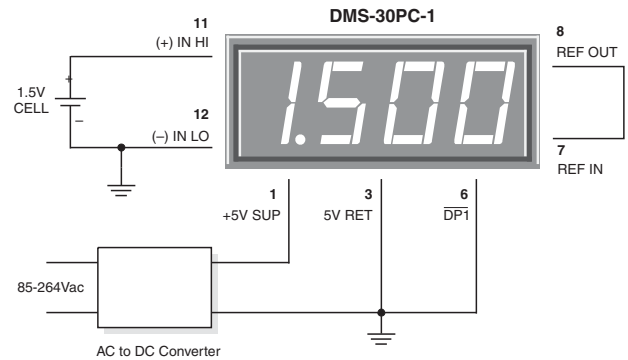

Figure 5. Floating Input Measurements
4. Floating Signal Source Measurements: Floating signals can be measured using the circuits shown in Figures 5 and 6. Connecting pin